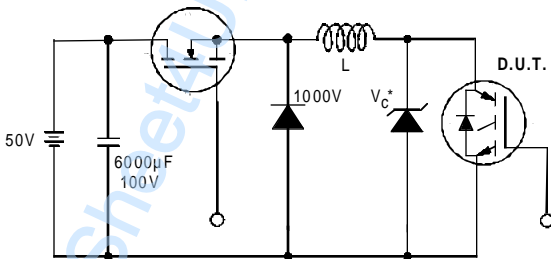

Figure 19. Clamped Inductive Load Test Circuit
- ② $V_{CC}=80\%(V_{CES}), V_{GE}=20V, L=10\mu H, R_G=50\Omega,$ (See fig. 19)
- ③ Pulse width $\leq 80\mu s$; duty factor $\leq 0.1\%$.
- ④ Pulse width $5.0\mu s$, single shot.
- ② $V_{CC}=80\%(V_{CES})$, $V_{GE}=20V$, $L=10\mu H$, $R_G = 22\Omega$ (figure 19)